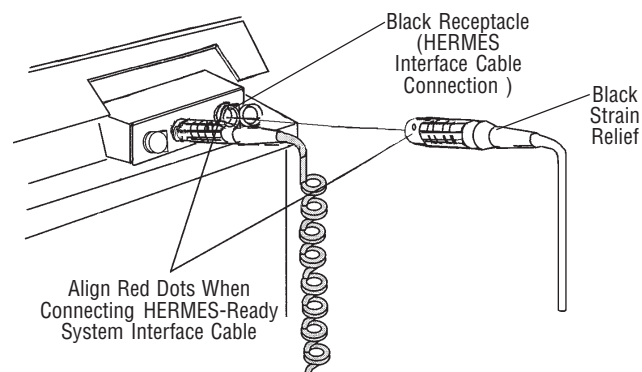

Figure 4-6. HERMES-Ready System Connection
2. Connect HERMES Interface System to HERMES-Ready 3085 SP table by aligning HERMES interface cord black plug red dot with red dot of black receptacle on HERMES-Ready table and pushing plug in to complete connection (see Figure 4-6).